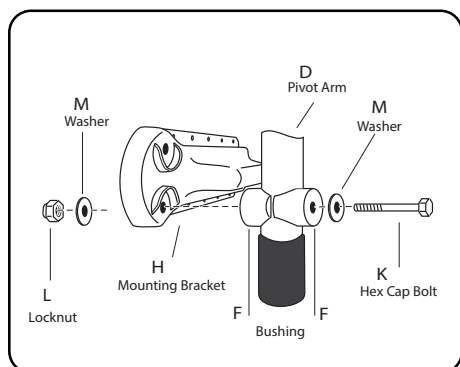

Figure 1a
To make up each bracket assembly, use 'Figure 1a' as a reference. Place a washer (M) on the hex cap bolt (K) and insert through the pivot arm (D) surrounded by both bushings (F). Continue to feed the hex cap bolt (K) through the mounting bracket (H), using the lower hole as per 'Figure 1a'.